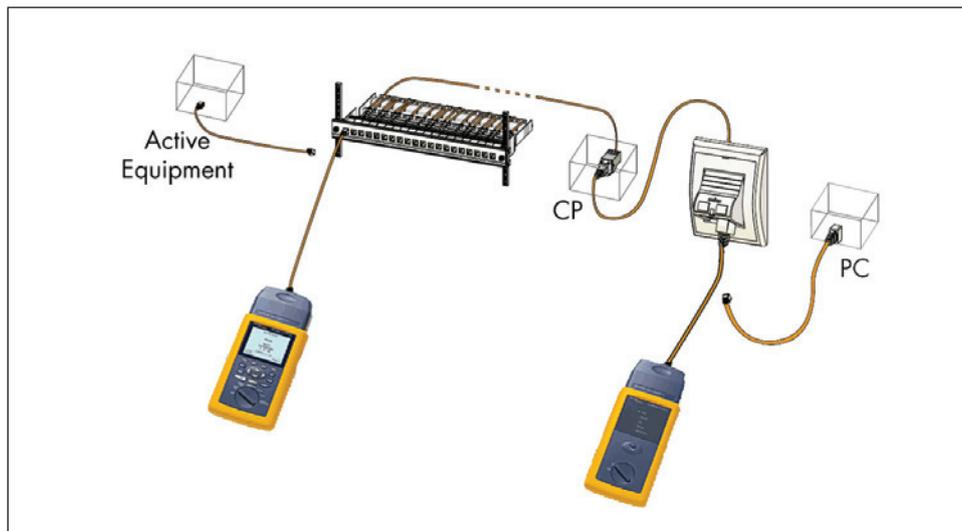

Figure 2.3: Testing at 3 connector Interconnect - CP - TO model
Testing in a 3 connector test model as shown in Figure 2.3 is mandatory to acquire a LANmark-6A Certified Systems Warranty on the complete installation (= 3 connector installation) under the condition that the correct test heads are in use.
If LANmark-6A Ultim patch cords are used to cross connect the patch panels, testing as a 3-connector test model, described in 2.4.3 and testing the separate cross connect lead in channel will do to acquire a Nexans Certified Systems Warranty on the complete installation (= 4 connector installation). The installation includes a Consolidation point lead existing of a 'single ended' LANmark-6A Ultim patch cord which must be terminated using a Nexans N420.67A Evo Snap-in connector connecting the Consolidation Point (CP) to the Terminal Outlet (TO). Testing in a 3 connector test model as shown in Figure 2.3 is mandatory to acquire a LANmark-6A Certified Systems Warranty on the complete installation (= 4 connector installation) under the condition that the correct test heads and test limits are used.
*Note: An alternative way of testing is to test as a 2-connector installation from the Patch Panel to the Consolidation Point (CP) ignoring the conditions mentioned above. (With these test results only a Certified Systems Warranty on the 2 connector installation as described in paragraph 2.4.1 can be obtained.)*